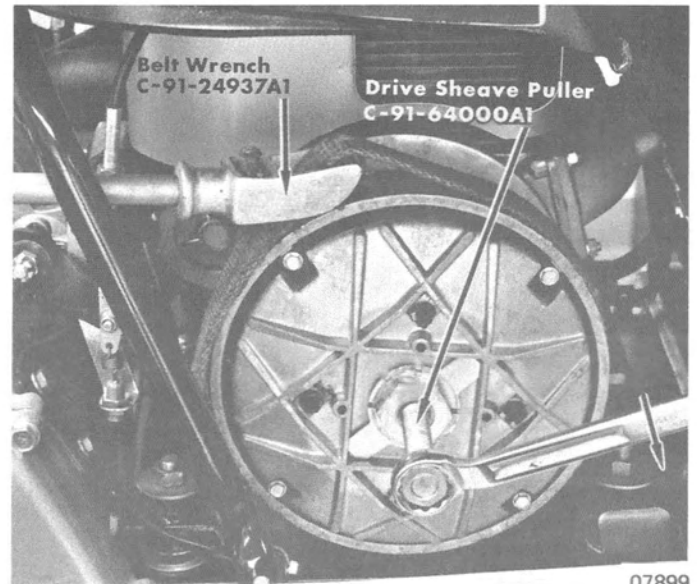

Figure 2. Removing Sheave from Crankshaft
5. Hold drive sheave with Belt Wrench (C-91-24937A1) and operate Drive Sheave Puller (C-91-64000A1) to remove sheave assembly. (Figure 2)